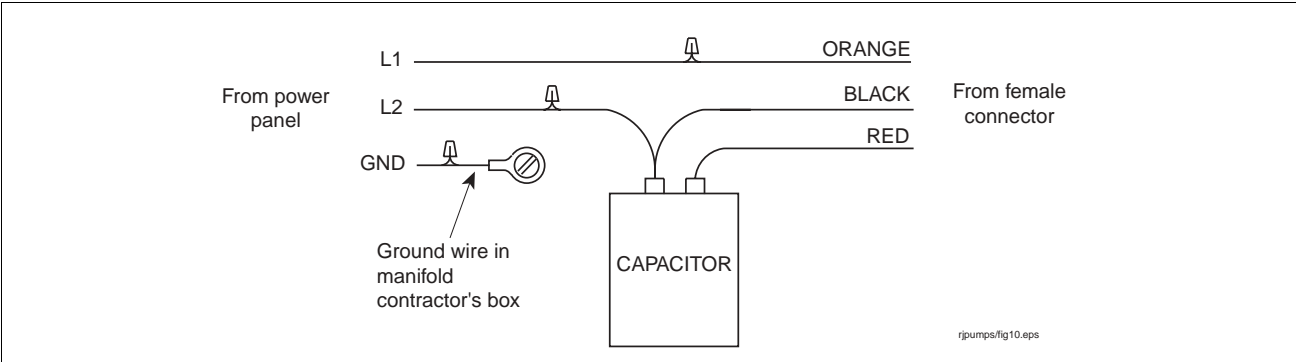

Figure 16. Power wiring schematic for single phase pumps
1. Connect the orange wire from manifold's female connector to L1 from the power panel (see wiring diagram in Figure 16).
4. Insert new capacitor into manifold compartment and attach wire terminals exactly as they were connected to the old capacitor (ref. Figure 16 on page 20).